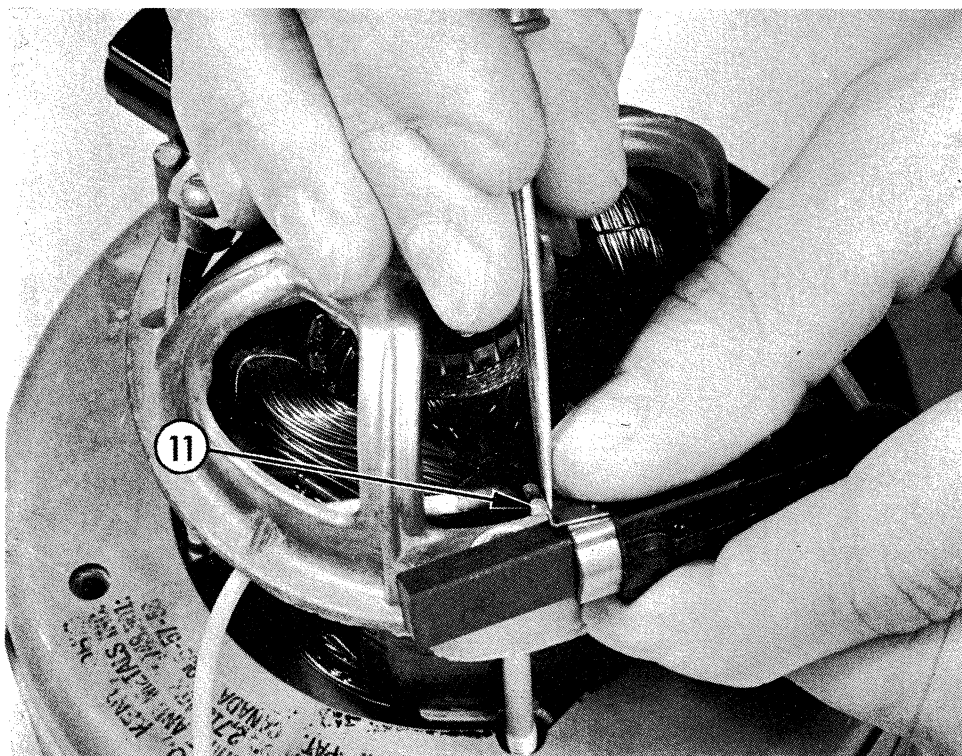

Figure 7-4b
- Step 11: (See fig. 7-4b.) Holding brush housing between thumb and forefinger, with the aid of a small screwdriver, prise out the tab, using the thumb as a fulcrum. (The plastic brush housing should not be used as a leverage point). As the stator winding wire is directly welded to the tab, care should be taken to neither damage the windings nor to break the wire at the tab.